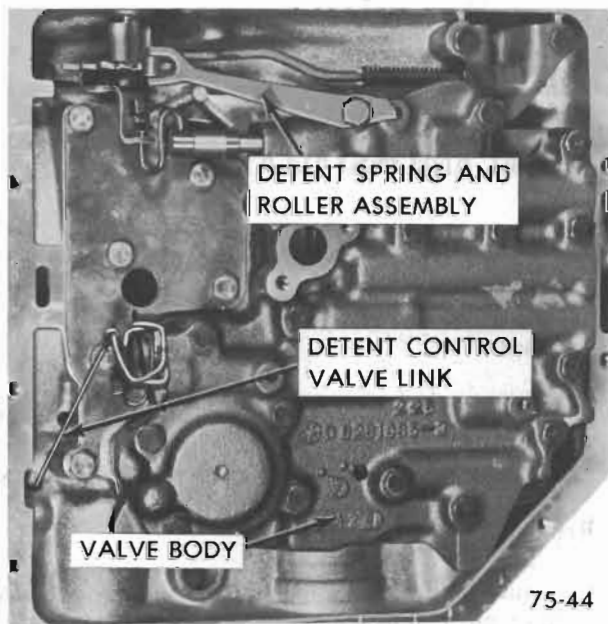

Figure 75-62
1. Remove detent roller and spring assembly from valve body. Remove valve body to case attaching bolts. See Figure 75-62.